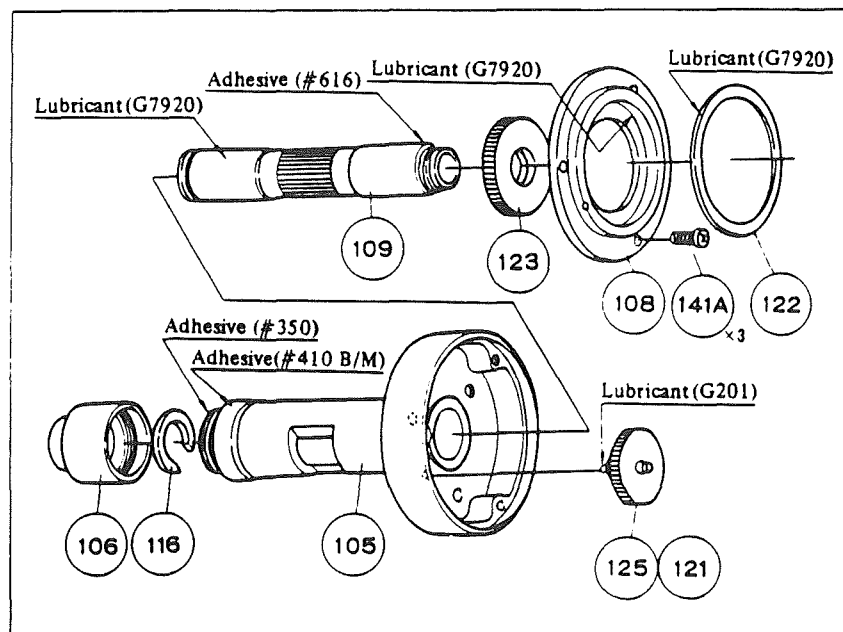

Fig. 36
< Field diaphragm (Fig. 36 and 37) >
- 4) Clean the thread of pinion case (105), using gasoline.
After drying, apply No. 350, and screw in coarse focus bearing (106). (Fig. 36).
- 7) Attach gears (121) and (125) to pinion case (105), and coarse focus knob bearing (108) (this should be cleaned, beforehand) to (105) by means of screws (141) × 3. ((121) and (125) are to be oiled as shown in Fig. 36, after cleaned and dried.)